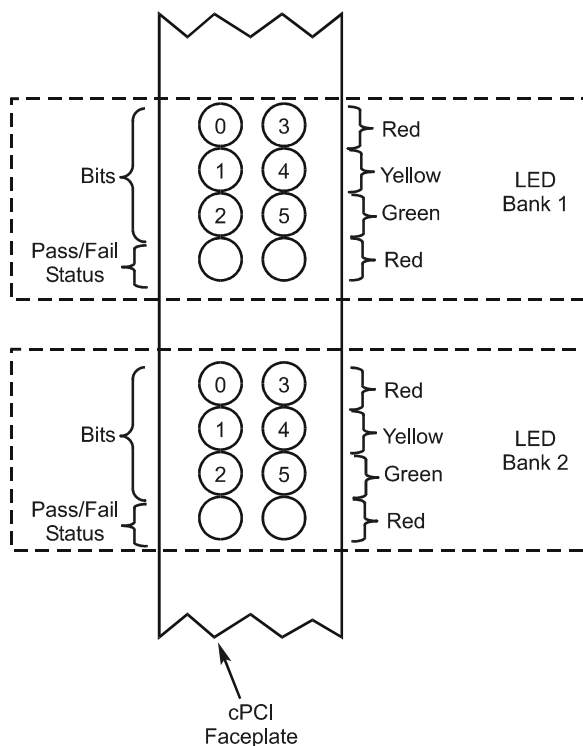

Figure 19. DNI Board LEDs (cPCI)
1. Locate the two banks of LEDs on the DM3 board. On a cPCI board, the LEDs are located on the faceplate of the DM3 board as shown in Figure 19.